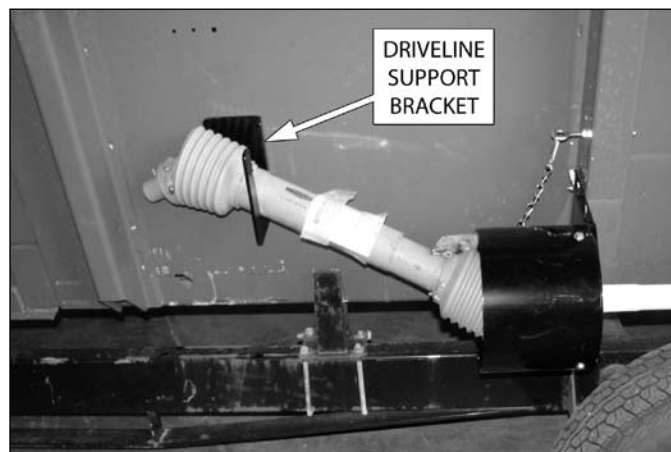

Figure 8, Driveline support bracket
13. Determine an appropriate location to mount the driveline support bracket (see Figure 8 for reference). You may mount the bracket to existing holes in the header if available. Otherwise, mark and drill two 13/32" holes through the header for the bracket. Install it with two 3/8" x 1" hex bolts, washers and serrated flange nuts.